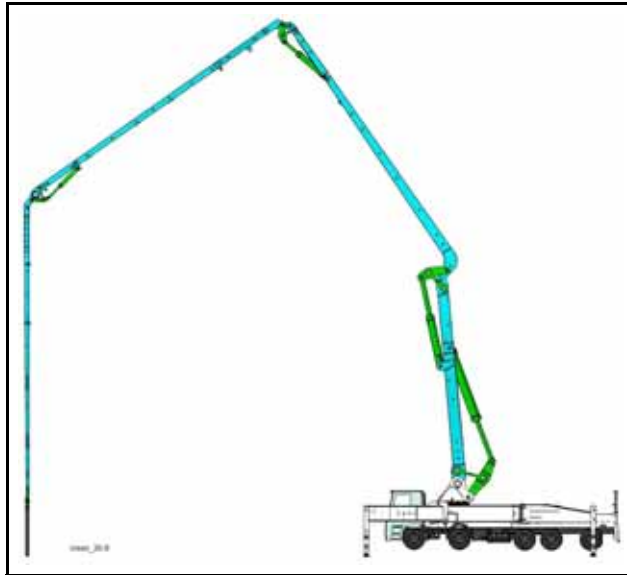

Fig. 224 Cleaning position for placing boom (schematic diagram)
- Position the placing boom as shown in (Fig. 224).